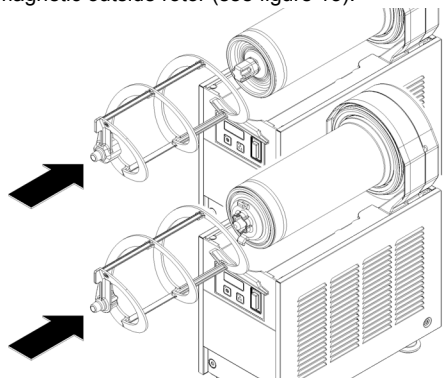

figure 13
- 6 Install the outer spiral. Slide it over the evaporator until its hexagonal front notch engages with the hexagonal exposed end of the magnetic outside rotor (see figure 13).